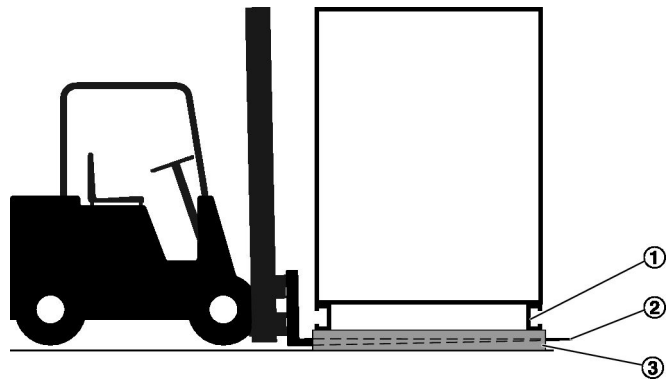

Fig. 6: Carrying load with a forklift
1. ▶ Drive the forklift forward until the forks (Fig. 6 /3) are fully between the square edge timber sections of the pallet (Fig. 6 /2) and protrude from underneath the base frame (Fig. 6 /1) on the opposite side.